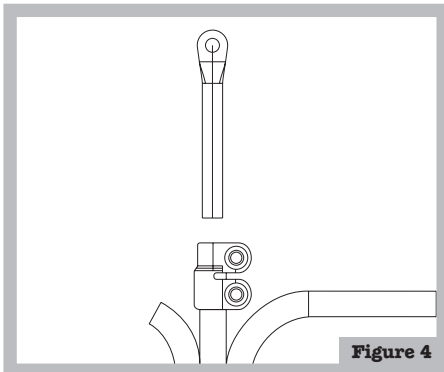
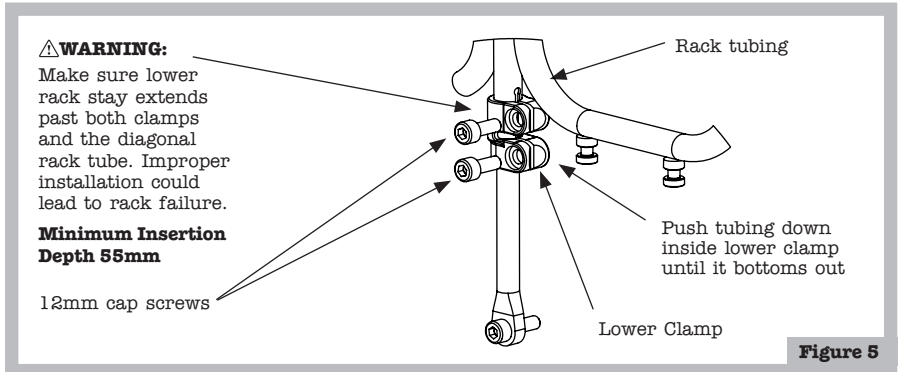

Figure 4
Figure 5
4. Lightly grease the lower rack stays and install them into the clamps (Figure 4). Grease the threads of the 12mm cap screws, and partially thread the screws into the clamps (Figure 5). Don't tighten them yet.